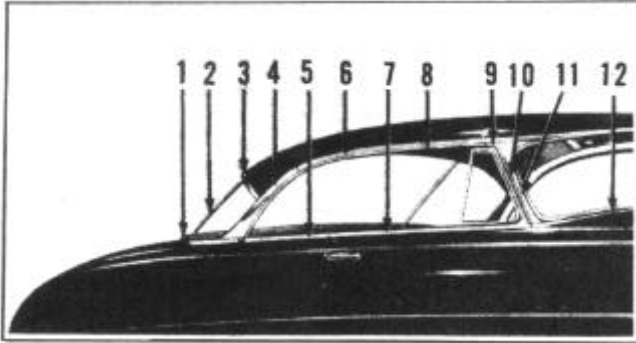

FIGURE 200
1. Remove the roof panel drip moulding cover joint cover, Figure 200.